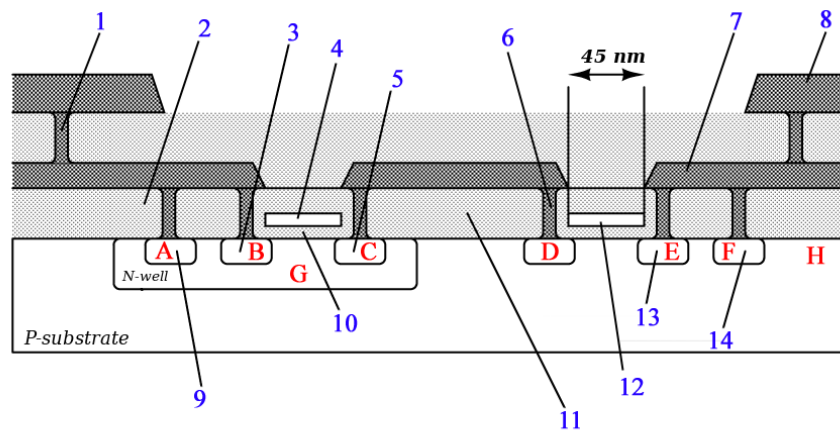

Figure 1: Cross section of an inverter
In Fig. 1 some objects have been marked. A cross section of an inverter implemented in a *gpdk45* N-well CMOS process is shown below. Even though our process have 11 available metal layers only the two closest to the substrate are shown. Further, the CMOS process we use in the lab is a dual-well (sometimes called twin-well) process. However, the P-well is automatically generated for all areas not covered with N-well.
- Below is a description of the objects numbered 1 – 14 in Fig. 1. Assign the numbers to the description that best describe each object.